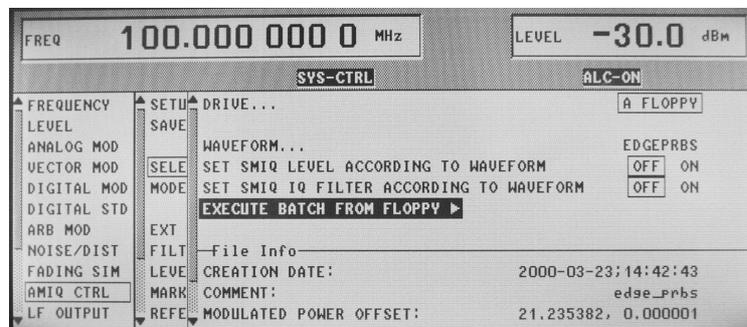

Fig. 6 In the **AMIQ CTRL** menu of the SMIQ execution of a waveform file is done in the submenu **EXECUTE BATCH FROM FLOPPY 4**
- Go to the *SELECT WAVEFORM/EXECUTE BATCH...* submenu as presented in Fig. 6. Another submenu pops up. Scroll with the rotary knob down to *EXECUTE BATCH FROM FLOPPY 4*. Press the *SELECT* key on the SMIQ front panel.